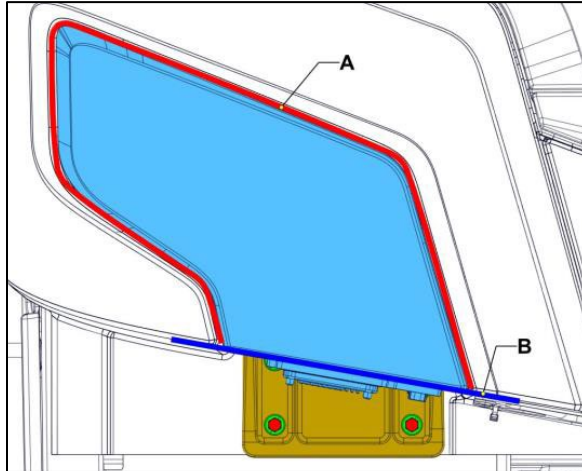

FIGURE 98
9. With the bolts slightly tighten, center the headlight module in the opening to distribute the play evenly on each side (Figure 98).